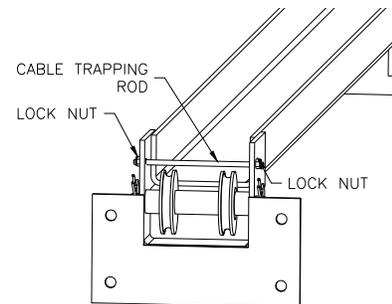

Fig 4-Cable Trapping
- 15) At the upper beam sheave locations disassemble and reassemble the cable trapping rod to install the cable onto the sheave, See **Fig 4**. To install the cable bottom sheave will need to be removed then reassembled.